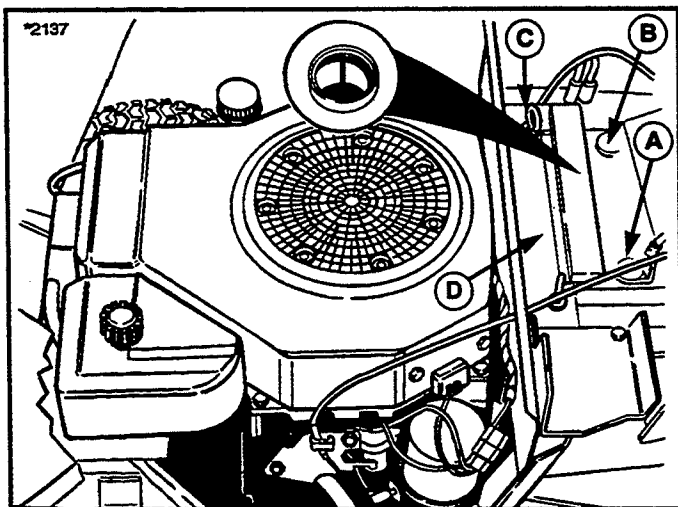

Figure 24. Battery
2. Remove battery filler cap (figure 24) . Fluid must be even with split ring full mark. If not, add distilled water.
1. Disconnect the cables from the battery, negative cable first (figure 24)